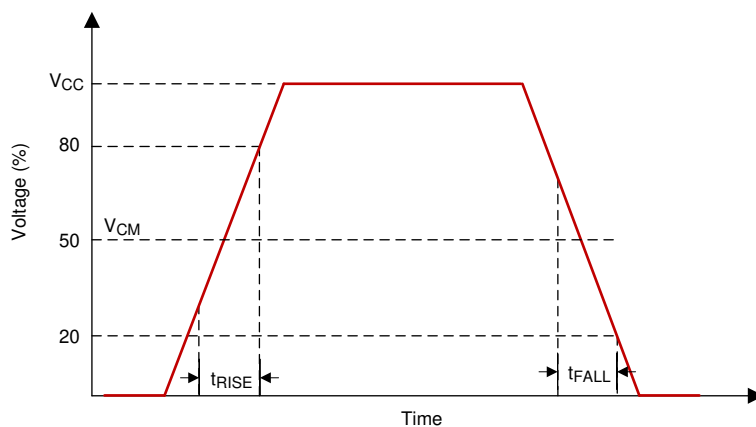

図 6-3. SCP Requirements for Rise and Fall
(1) See Figure 6-3 for rise time and fall time for SCP.